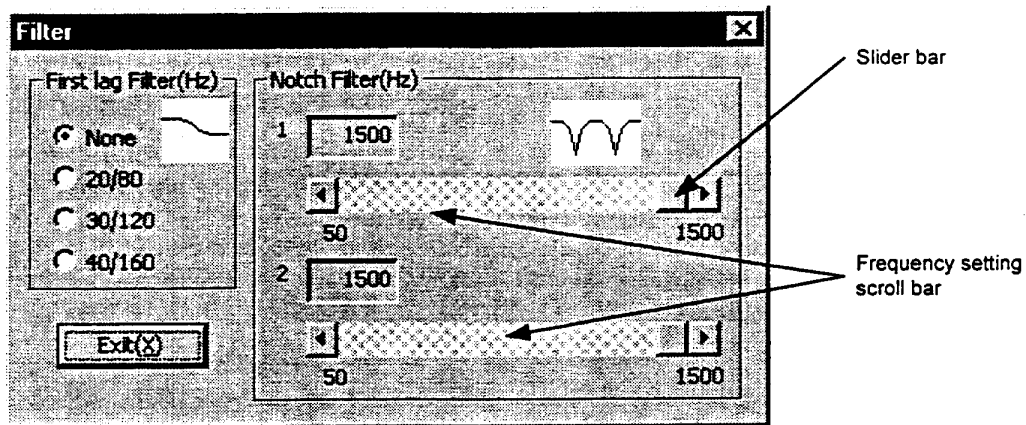

Figure 7.17 "Filter" dialog box
(3) Filter setting
Click "Filter (F)" under "Servo Tuning" to display the "Filter" dialog box (see Figure 7.17). The filter setting is divided into two sections, a first order delay filter setting and a notch filter setting.